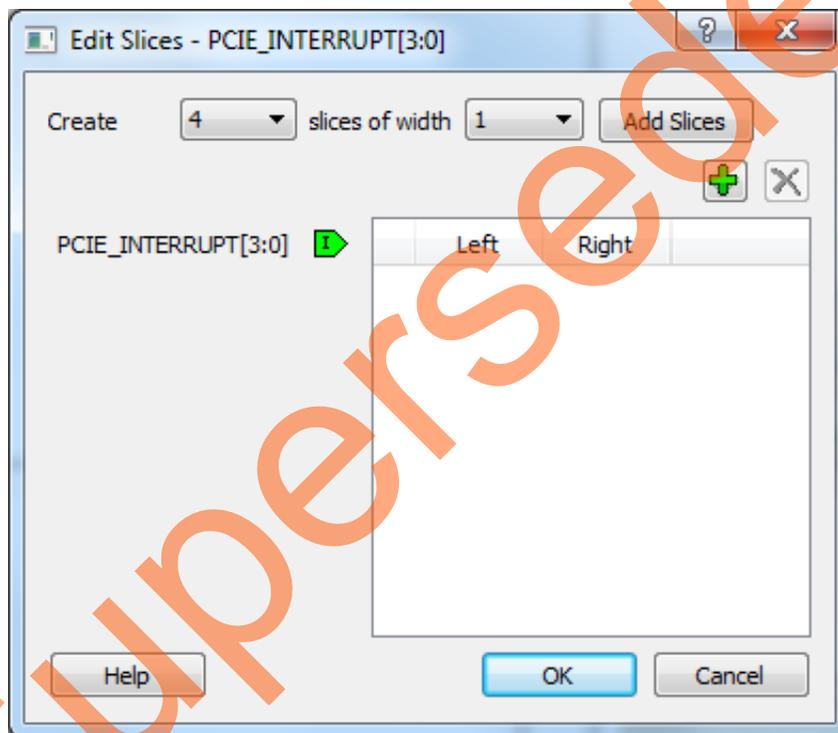

Figure 32 • Edit Slices
29. The PCIe supports four interrupts. This design uses only one interrupt out of four by connecting the unused interrupts to logic 0. To connect the unused interrupt pins to logic 0, split the interrupt pins to two groups. To do that, right-click the **PCIE_INTERRUPT[3:0]** of **SERDES_IF_0** and select **Edit Slice**. The **Edit Slice** window is displayed as in Figure 32.